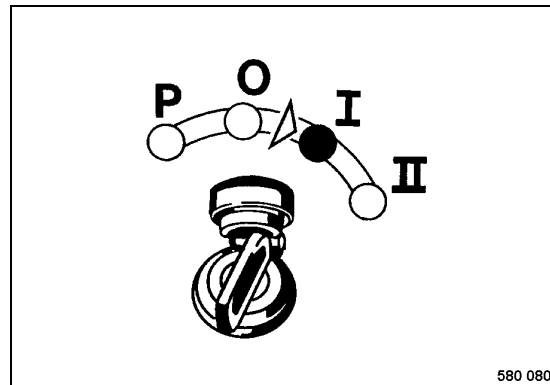

Fig. 77
- Turn the ignition key (Fig. 77) to position "I".